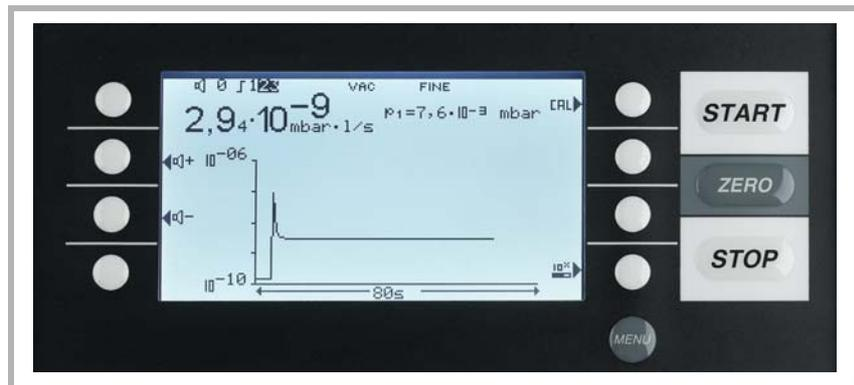

Fig. 15 Display: Measurement Mode with trend information
- As trend: numerically, combined with a diagram (leak rate versus time) Fig. 15
In the lower right corner of the display (next to the Soft Key no. 8, Fig. 14 and Fig. 15) you will find a symbol that allows to switch between the display modes by pressing Soft Key no. 8. See chapter 5.4.4 and 5.4.5 for explanations of the different display modes.
Access to calibration (Soft Key no. 5, Fig. 14 and Fig. 15) and access to the speaker volume (Soft Keys no. 2 and no. 3, Fig. 14 and Fig. 15) is the same in all modes. Also the status icons in the upper line are in common in both display modes.
The status line at the top of the display (Fig. 14 and Fig. 15) informs about (reading from left to right):
In trend mode the leak rates are displayed over time Fig. 15. In addition the actual leak rate and inlet pressure also are displayed digitally. The time axis can be defined in the menu (Please refer to Chapter 6.2.3 Time axis). The intensity axis (y-axis) is defined the same way as the bargraph (Please refer to Chapter 6.2.1 Scale linear/logarithmic).